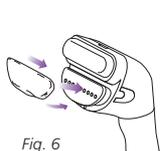

Fig. 6
- 2 Remove the water tank cap by turning counter clockwise and use the funnel that is provided to fill the water tank to the max fill line. (fig. 6)
The small steam bonnet must be attached at all times during usage. (Fig. 6)